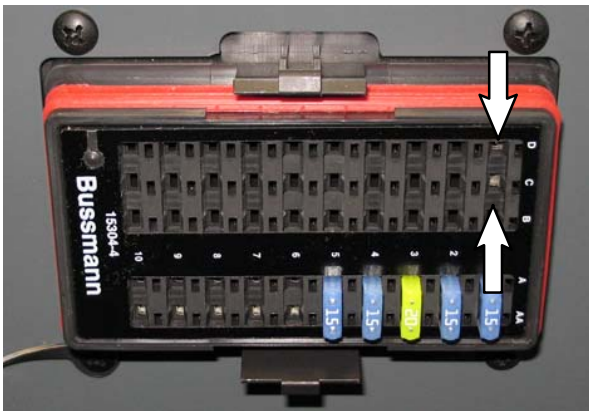

FIG. 6
14. Plug the 15-Amp fuse (9) into fuse box location 11. (Fig. 6)